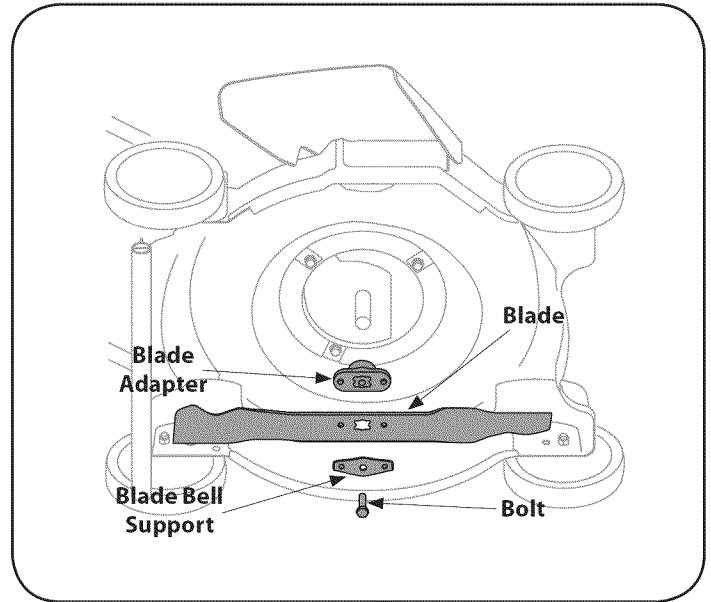

Figure 15
2. Remove the bolt and the blade bell support which hold the blade and the blade adapter to the engine crankshaft. See Figure 15.